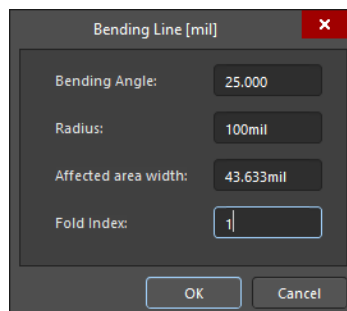

Figure 13. Bending Line Properties
- Radius** of 100mil, Figure 13.